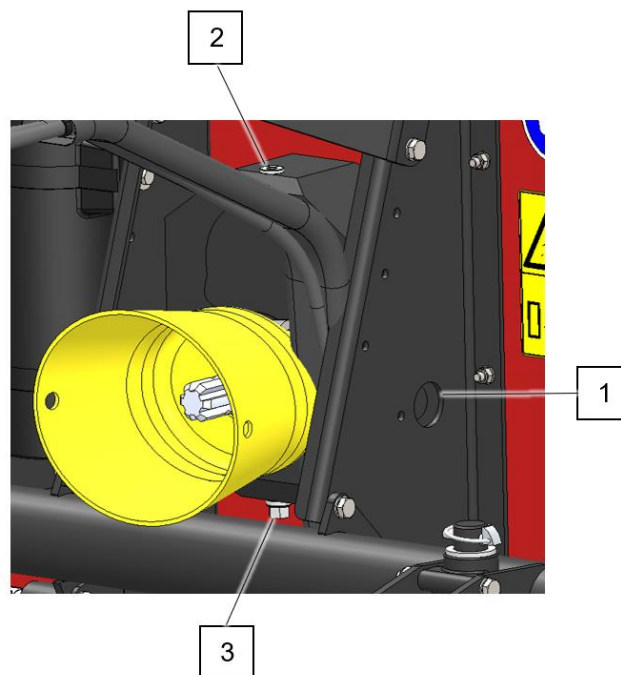

Fig. 12
3. Remove the filler plug (2), see figure (Fig. 12).
4. Remove the oil by means of a suction pump or place a collection container of sufficient capacity (more than 2.5 litres / 0.66 gallon) under the drain plug (3) and remove this plug.
6. Reinstall the drain plug (3).
8. The oil level can also be read through the sight glass if necessary (1).
9. Reinstall the filler plug (1).